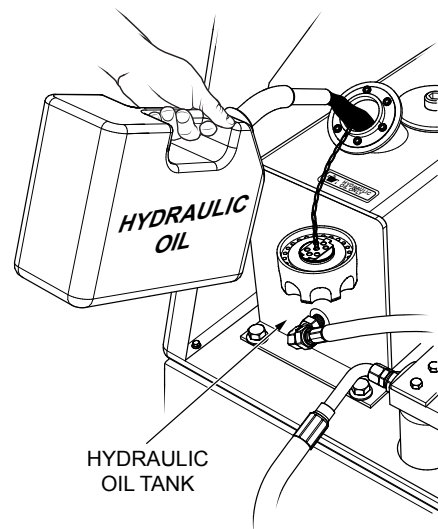

Figure 41. Adding Hydraulic Oil
8. Remove the hydraulic oil filler cap (Figure 41), and add hydraulic oil as required. Fill to the normal operating mark as indicated on the hydraulic oil sight gauge.